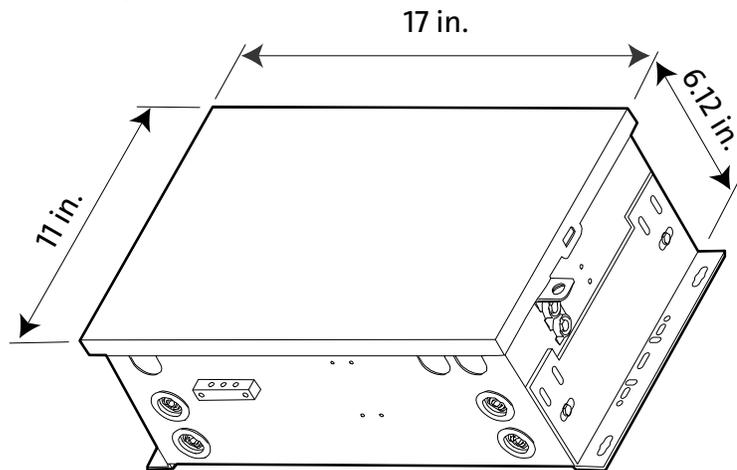

Figure 3
- Step 2: Attach the mounting brackets to the FBT as shown in Figure 3, using #10 -32 x 3/16-inch slotted pan-head screws and #10 flat washers.